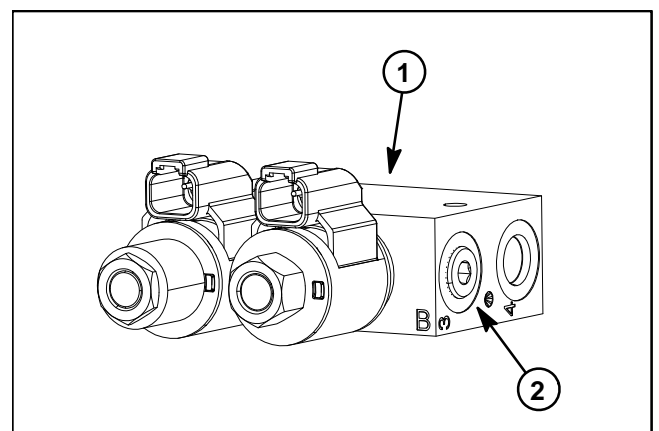

Figure 39
6. Thoroughly clean deck lift manifold around the plug in port 3 on rear of the deck lift manifold (Fig. 39). Remove plug from deck lift manifold port 3.